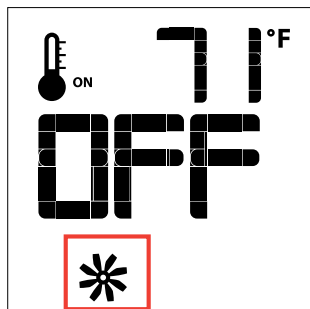
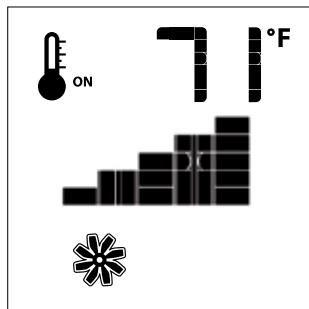

Figure 13
Figure 14
If the appliance is equipped with a hot air circulating fan, the speed of the fan can be controlled by the Proflame system. The fan speed can be adjusted through six (6) speeds. To activate this function use the Mode Key (Fig.1) to index to the fan control icon (Fig. 13). Use the Up/Down Arrow Keys (fig.1) to turn on, off or adjust the fan speed (Fig. 14). A single "beep" will confirm reception of the command.